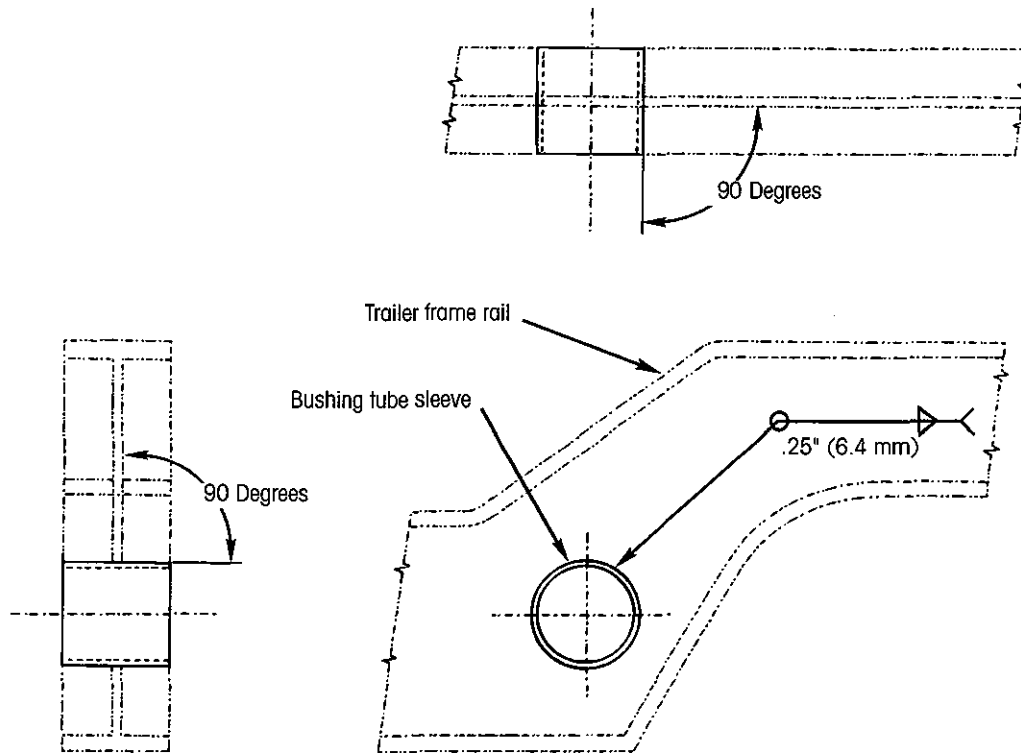

Figure 26: *Bushing tube sleeve installation*
2. **Install** additional support braces (gussets) to the bushing tube sleeves, Figure 26. These braces are customer supplied and should resist all fore, aft and vertical loading of the bushing tube sleeve. For more details, refer to applicable suspension installation instructions and/or drawings listed in L1073 and at www.hendrickson-intl.com/literature.